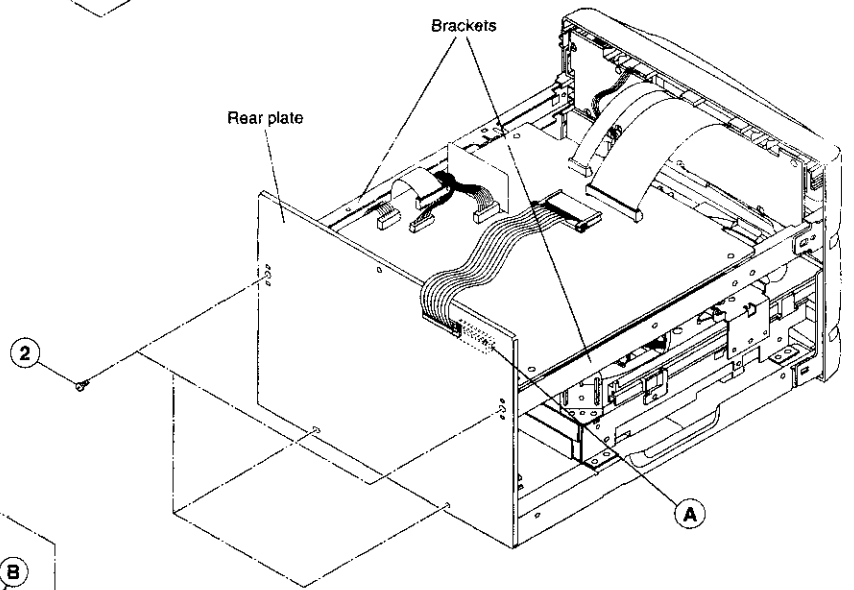

Fig. 15
(1) Remove 5 screws ①.
2. **Removal of Rear Plate (Fig. 15)**